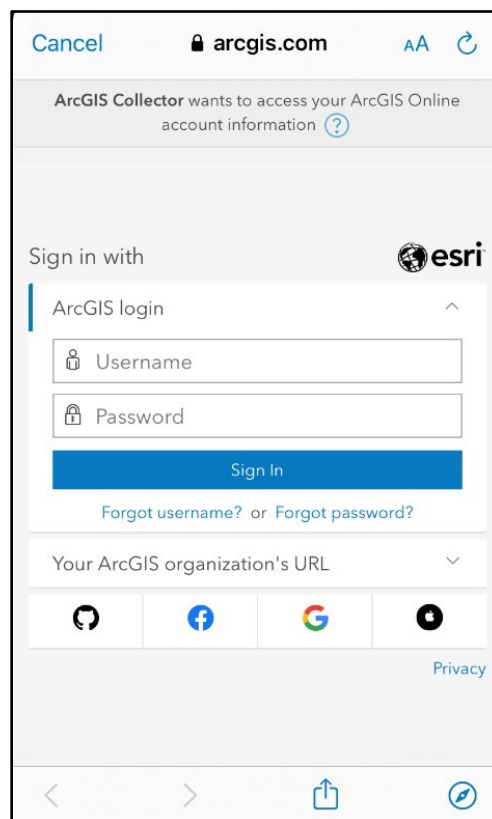

Figure 11
2. Select "Sign In with ArcGIS Online". Under ArcGIS login, enter your GeoDOT username and password and click "Sign In" (Figure 11).